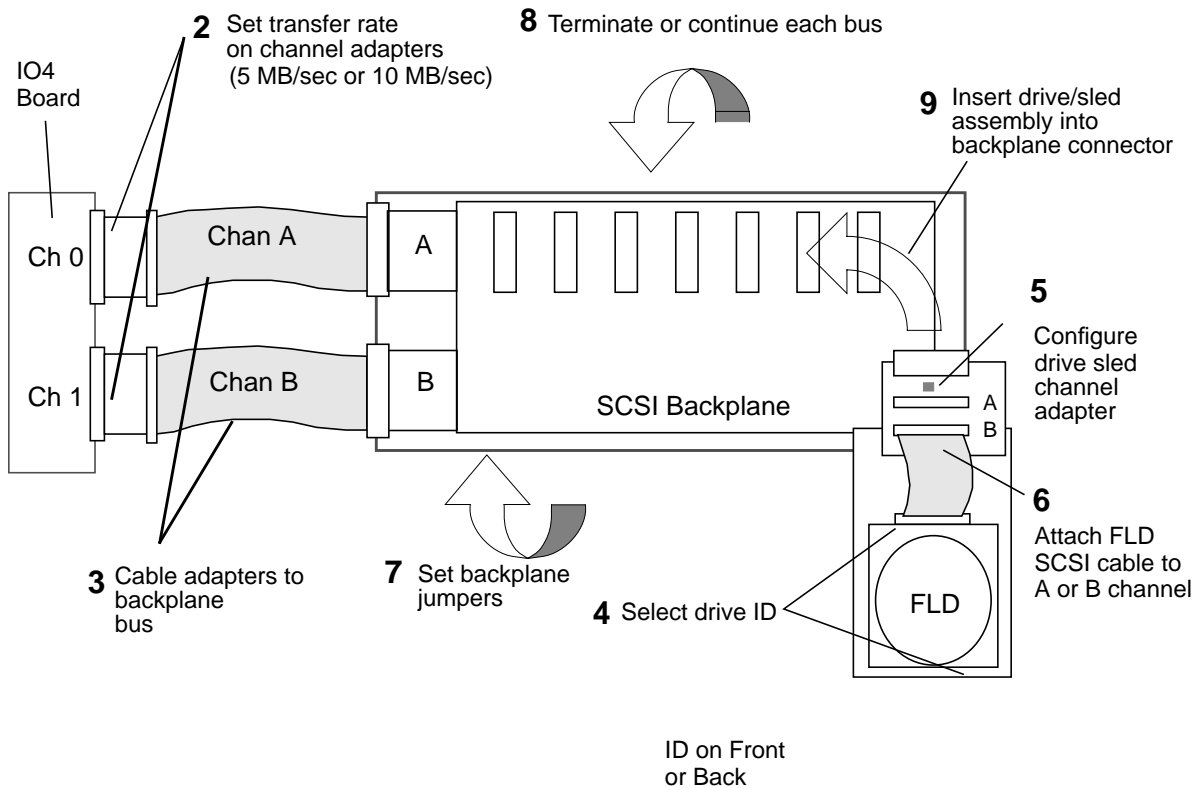
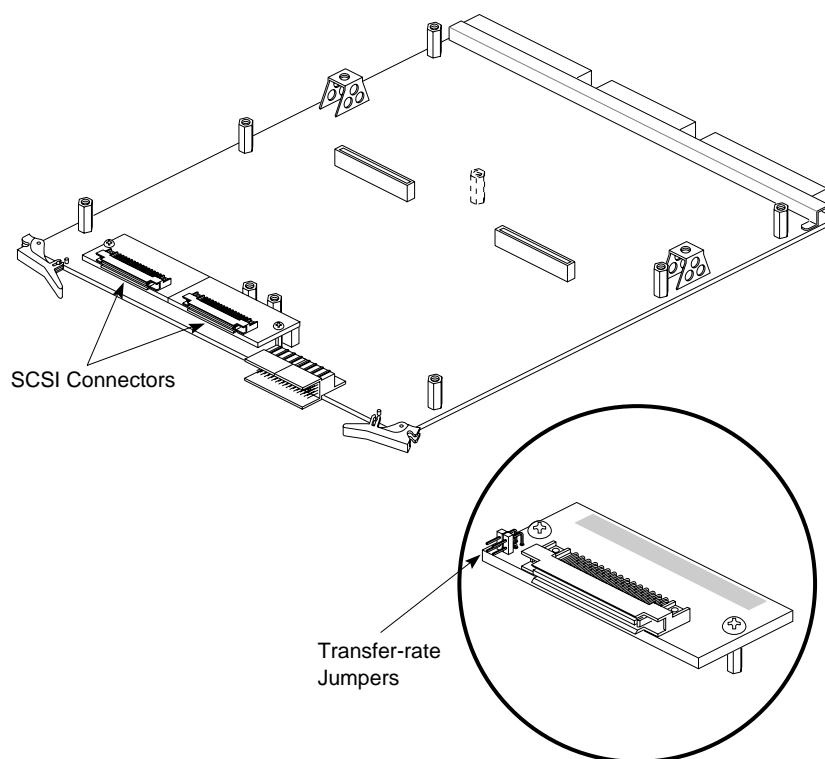

Figure 3-30 SCSI Channel Configuration
Figure 3-31 Transfer-Rate Jumpers
5. Configure the drive sled channel adapter to match the drive (either single-ended or differential) and snap it into place on the drive sled. The 2-GB disk drives supplied with the system are differential, the 1.2-GB drives are single-ended. To mount other devices, consult the manufacturer's documentation. See Figure 3-30 and Figure 3-31 for the channel adapter jumper settings.